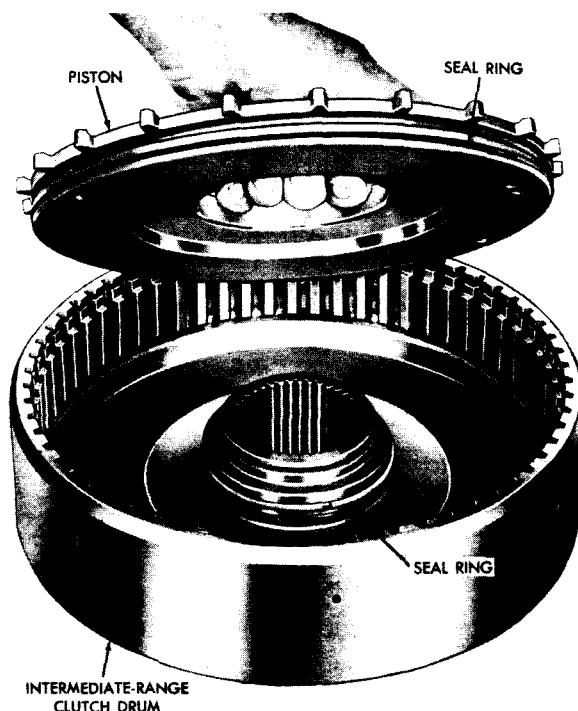

Fig. VI-30. Removing (or installing) intermediate-range clutch piston assembly
(3) Remove the piston return spring and the piston assembly (fig. VI-30). The piston assembly can be dislodged by bumping the clutch drum on a flat wood surface.
(4) Remove the hook-type seal ring from the inner hub of the clutch drum (fig. VI-30).
c. Assembly (item 2, A, foldout 10)
(1) Install the hook-type seal ring onto the inner hub of the clutch drum (fig. VI-30).
(2) Lubricate the hook-type seal ring and the outer circumference of the piston. Install the piston assembly, flat side first, into the clutch drum (fig. VI-30).
(3) Install the piston return spring, con-